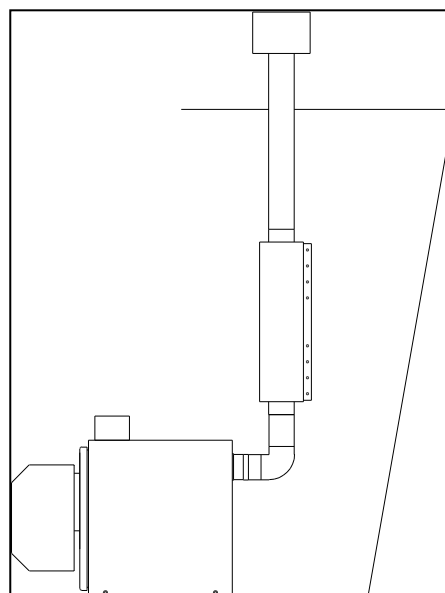

Figure 4
- Install a proper storm cowl on top of the chimney (this must stop rain from entering) (figure 4).